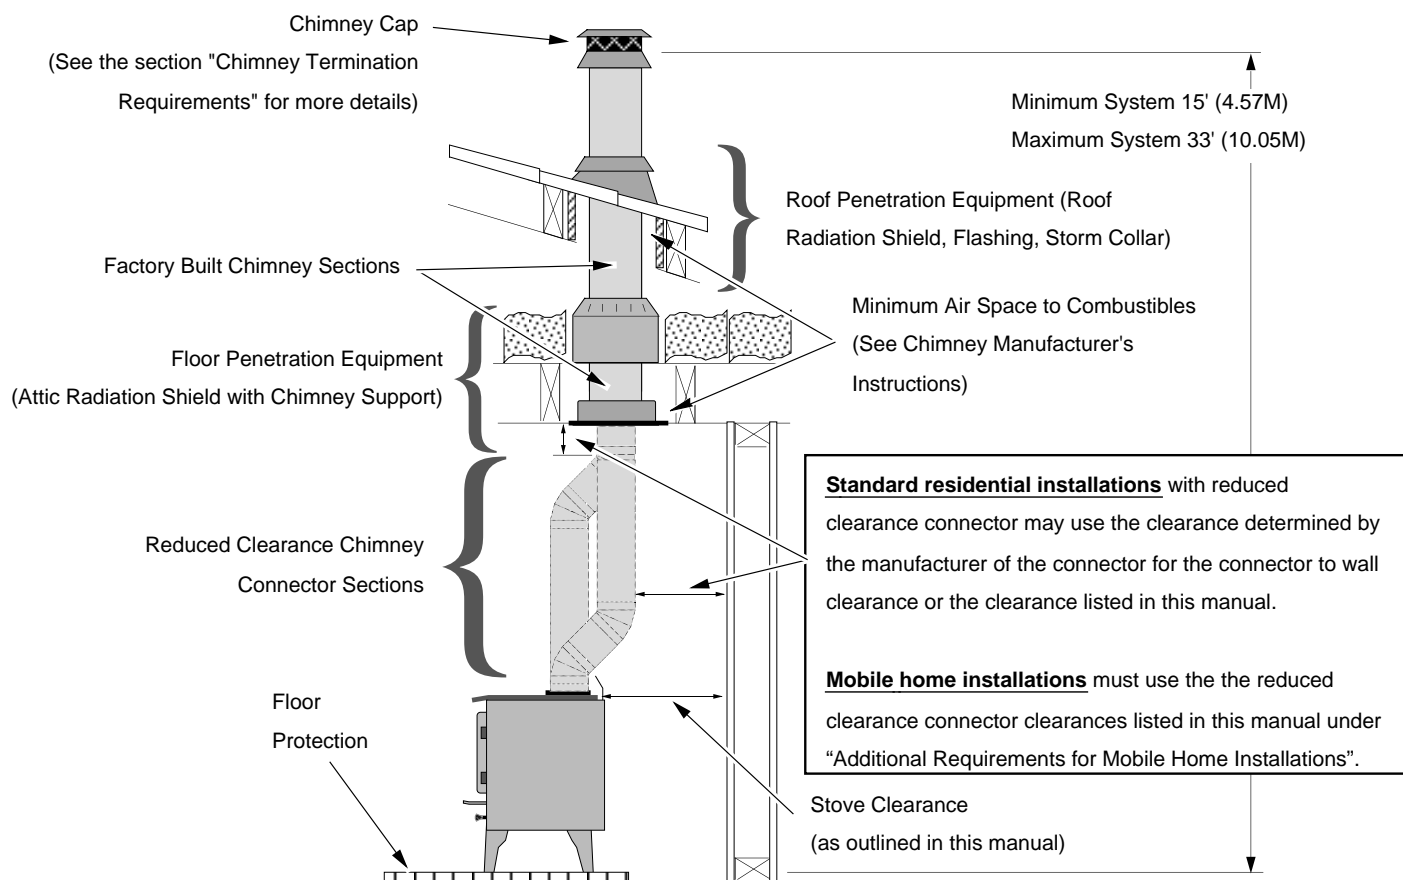

Figure 4
- Chimney connector is required from the flue collar of the stove to the factory-built chimney (see Figure 4) or masonry chimney (see Figures 13, 14, and 15).